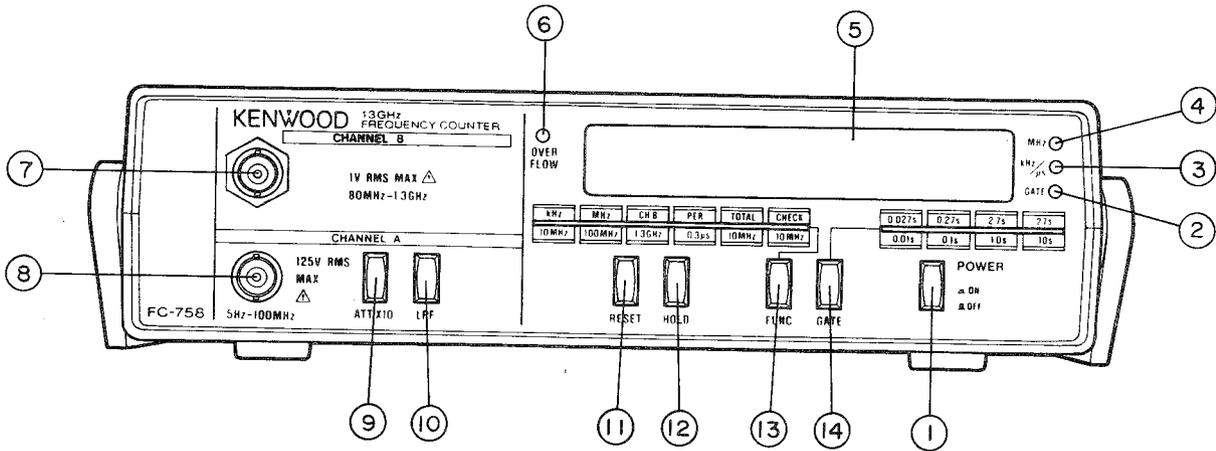

Figure 1. Front Panel
- ① POWER ON /OFF  Switch (See Figure 1.)